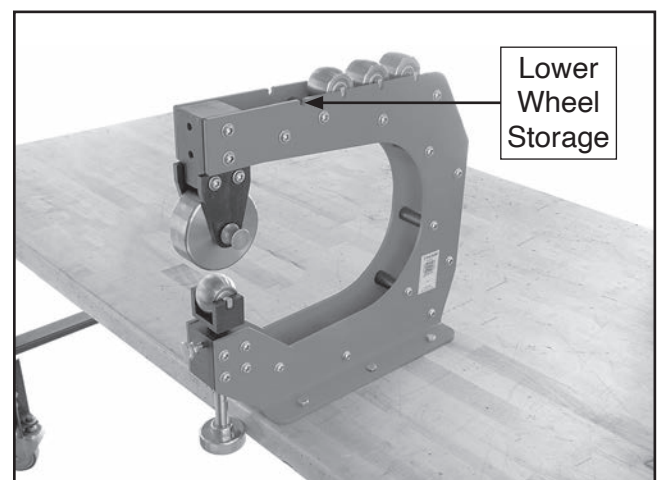

Figure 7. Location of lower wheel storage.
3. Insert (1) lower wheel axle in each lower wheel and place lower wheels in lower wheel storage (see **Figure 7**).